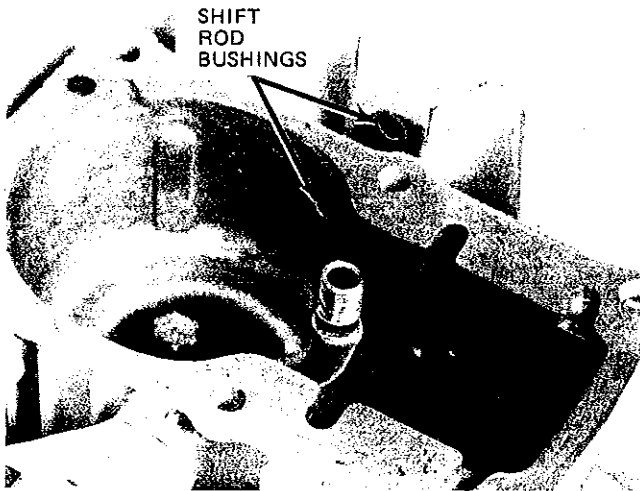

Figure 11
- (1) Inspect the shift rod bushings in the carrier handle and column housing. Replace if worn or damaged (Figure 11).